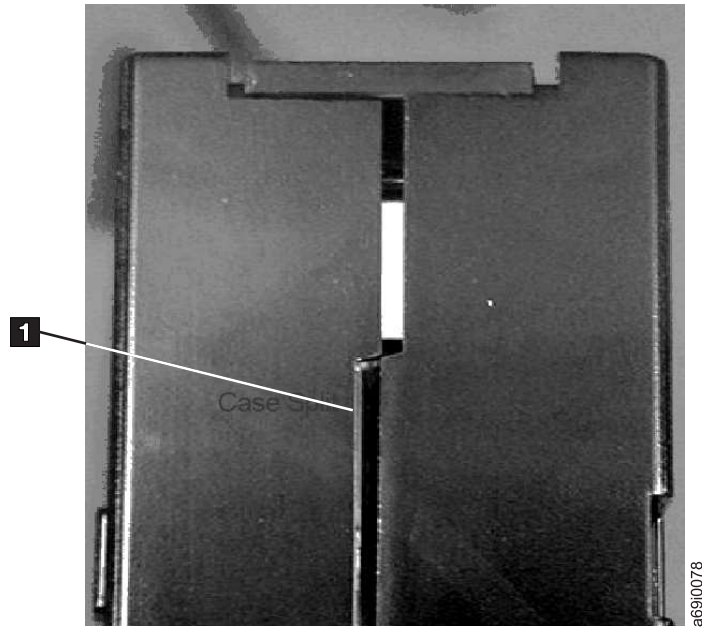

Figure 43. Gap in cartridge seam
3. Inspect the rear of the cartridge (the part that you load first into the tape load compartment) and ensure that there are no gaps in the seam of the cartridge case. (Refer to **1** in Figure 43 on page 155. If there are gaps in the seam, the leader pin may be dislodged and may need to be repositioned.)